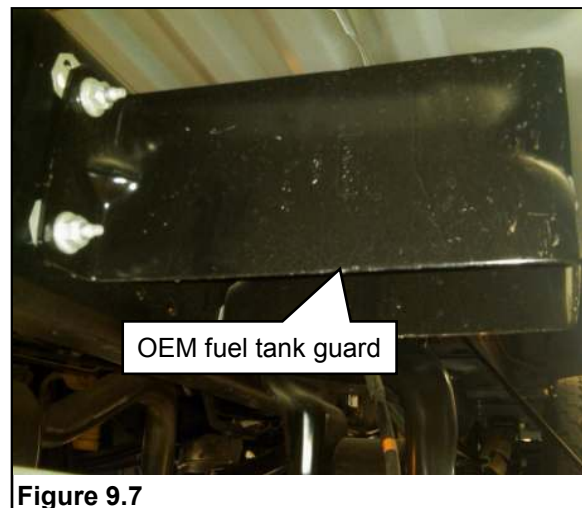

Figure 9.7
6. Some vehicles are equipped with an OEM fuel tank guard (bracket assembly) mounted on the outside of the left frame rail in front of the front spring hanger. Remove and discard this guard bracket if it interferes in any way with positioning and mounting the ROUSH CleanTech left side fuel tank mounting bracket. **Figure 9.7.**